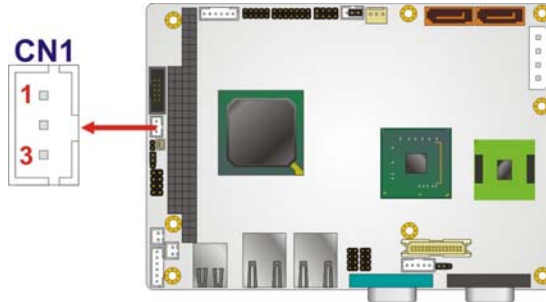

Figure 3-15: PC/104 Power Input Connector Pinouts
- CN Location:** See Figure 3-15